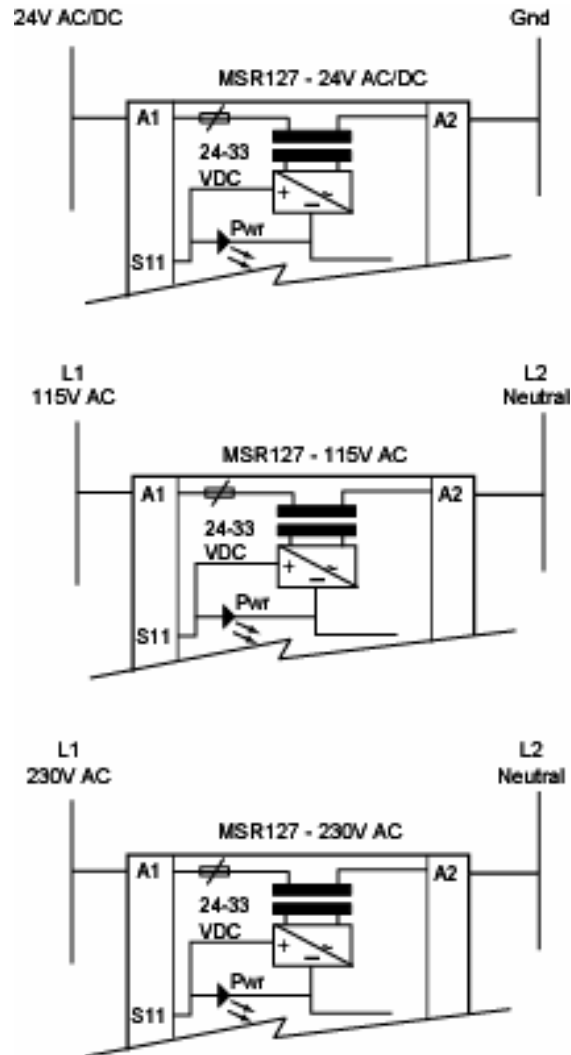

Figure 1. MSR127 Power Supply Connections
- For all units, the positive side of the voltage supply is connected to A1 and the negative side is connected to A2, as shown in Figure 1.